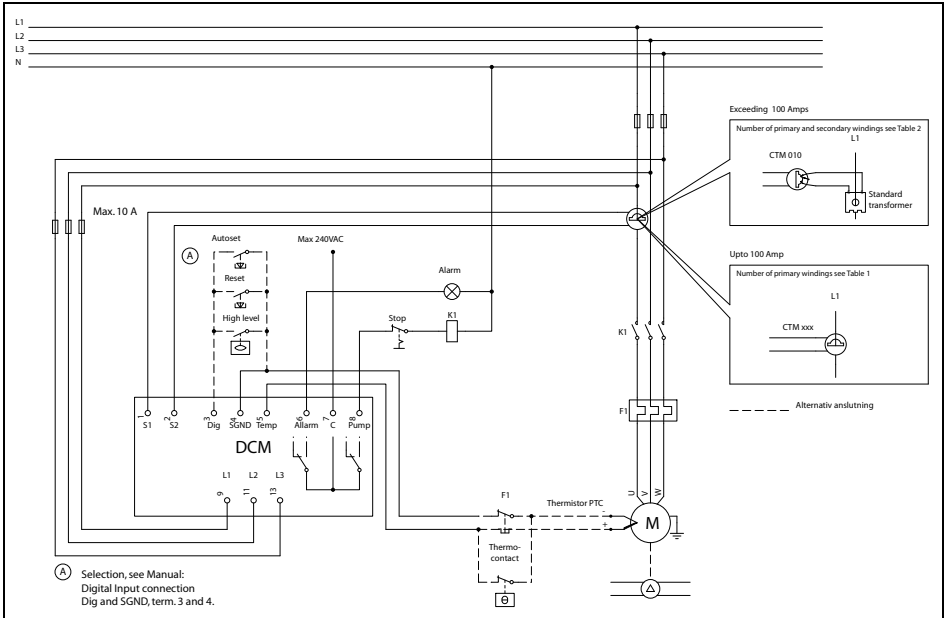

Fig. 13 Single-pump system installation example (alternatively see Chapter 13).
Connect the Emotron DCM (3-phase installation only) directly to the pump motor supply cable via terminals 9 (L1), 11 (L2), and 13 (L3). Make the connection ahead of the contactor of the motor, to ensure that the DCM also receives power when the motor is not in use. When motor fuses larger than 10 A are used, the DCM (power consumption 6 VA) must be fused independently, see Fig. 13, page 27.
Connect the current transformer CTM xxx to terminal 1 (S1, blue wire) and terminal 2 (S2, brown wire). The transformer **MUST** be linked to the phase connected to terminal 9 (L1), see Fig. 13.
NOTE: Before connecting the current transformer(s), study the choice of current transformers carefully to determine the correct number of windings. The current transformer **MUST be linked to the phase connected to terminal 9 (L1), see Fig. 13, page 27.**
Terminal 8 (PUMP) is an operating relay output. Terminal 7 (C) is the common input for the operating relay, see Fig. 13, page 27.
See Fig. 13, Table 8, page 53 and window 53.
Terminals 4 and 5 are the temperature-measuring input and/or motor protection contact connections. The motor protection relay can be connected in series with the temperature sensor. Terminal 5 (TEMP) is for a PTC-type thermistor or thermo contact. Terminal 4 (SGND) is the signal ground for the temperature-measuring input. See Fig. 13, Table 8 and windows 31 and 32.
7. In window 31, if the pump has a temperature sensor and/or motor protection, set the temperature monitoring to (on). If not, set the window to (OFF). See Section 8.5, page 42 and Fig. 13, page 27.
13. In window 53 set the required function for the digital input (DIG). Value: (1) high-level switch, (2) external reset, (3) external Auto set.
14. Connect the start and stop equipment to terminal 8, see Fig. 13, page 27.